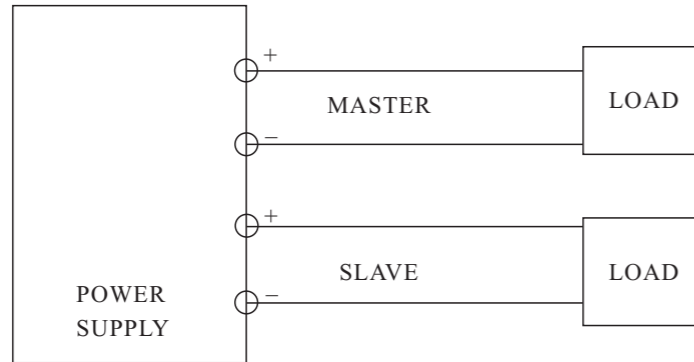

Fig.4-2 Independent Operation.
- F. Fig.4-2 illustrates the connection procedure.